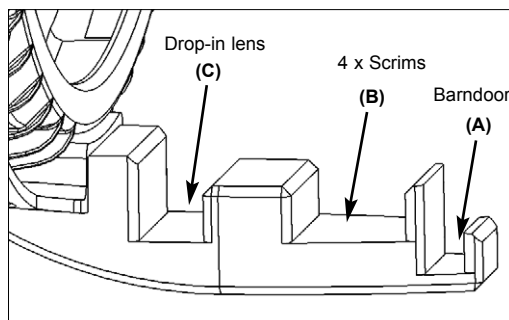
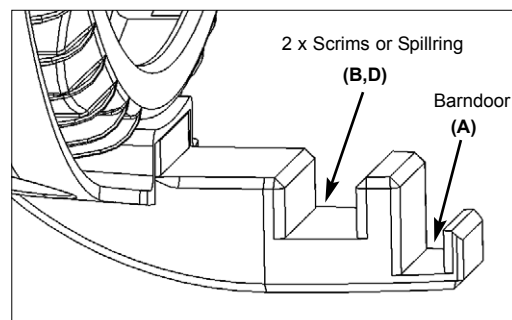

Abb.4 / figure 4
Abb. 5 / figure 5
**AS 18 (Abb. 4):**
- Hinterer Einschub: Drop-In Linse (C)
- Mittlerer Einschub: 4x Scrim (B)
- Vorderer Einschub: Flügeltor (A)**M 18 (Abb. 5):**
- Vorderer Einschub: Flügeltor (A)
**AS 18 (figure 4):**
- back insertion: Drop-in lens (C)
- middle insertion: 4x scrim (B)
- front insertion: barndoor (A)**M 18 (figure 5):**
- front insertion: barndoor (A)